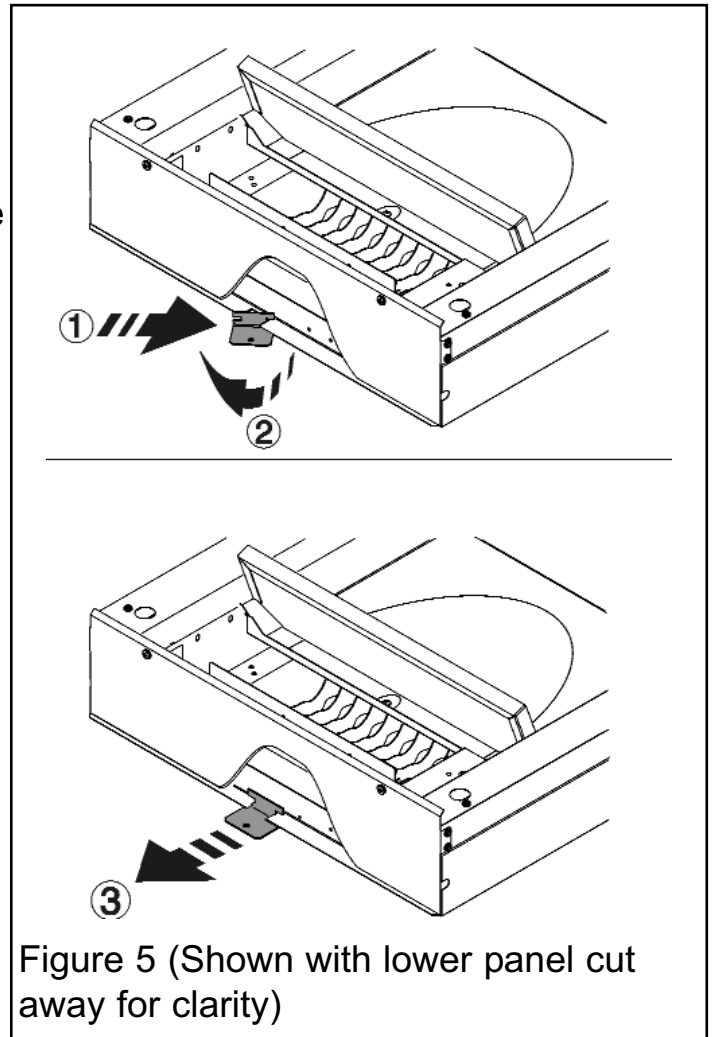

Figure 5 (Shown with lower panel cut away for clarity)
1. Supplied with the heater is a lower securing bracket (See figure 1). Offer one side of the bracket into the slot at the rear base of the heater (See figure 5). Swing the opposite side into place until the bracket is horizontal and pull down to hold in place (See figure 5). The bracket will remain loose but should not fall out of place.